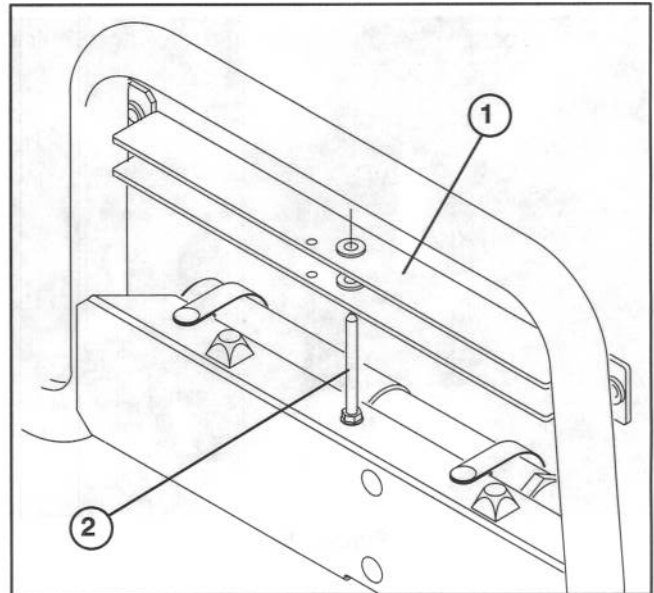

Figure 27
USING BED SAFETY SUPPORT (Fig. 27 & 28)
2. Remove bed support from storage stud on top of back rest support channel on Workman (Fig. 27).